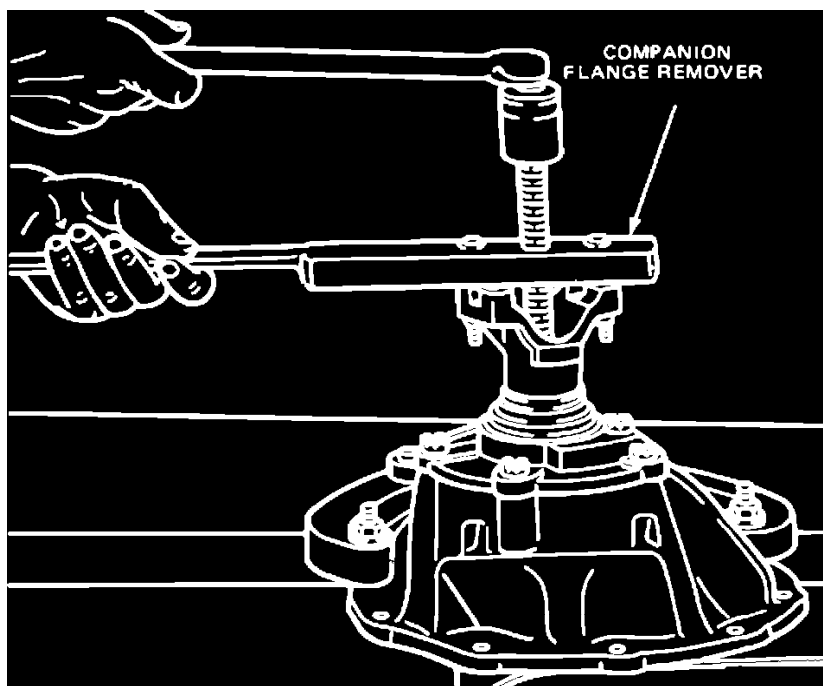

Fig. 4 Removing Companion Flange
2. Remove companion flange from drive pinion shaft, **Fig. 4**.